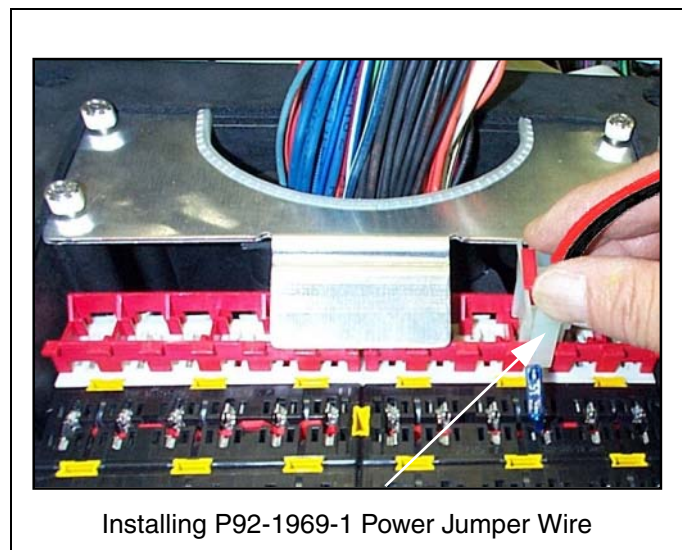

Figure 15-6
3. From under the dash, install a P92-1969-1 power jumper wire into one of the top row of 6 spare BATT, ACC, or IGN sockets not currently being used. See Figure 15-6.